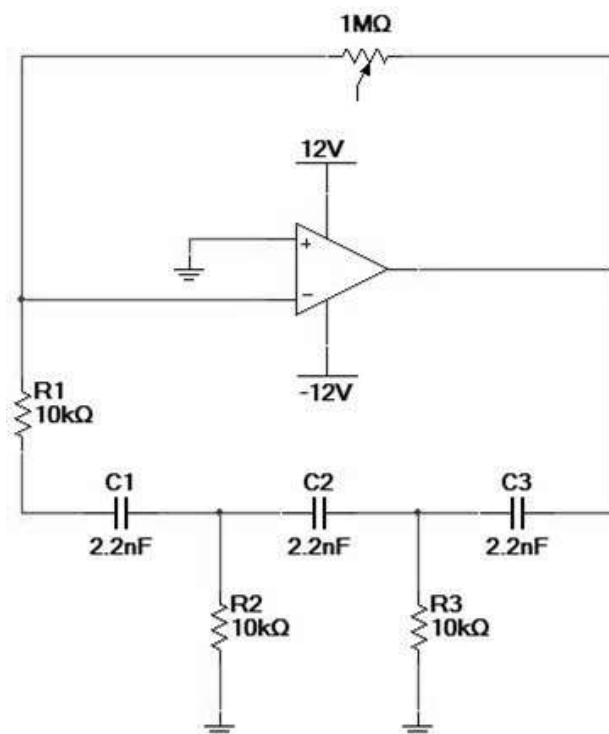

Figure 1.1: Phase Shift Oscillator Circuit
- Connect the circuit as shown in Fig.1.1 by using the 741 datasheet in Fig. 1.2.